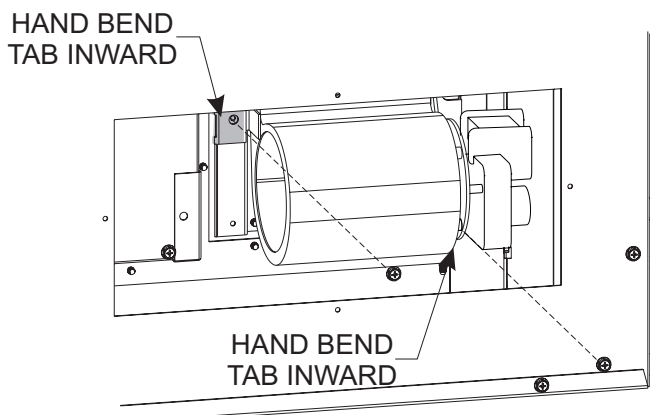

Figure 4
3. Bend tab as shown in Figure 4 and secure with (2) screws.